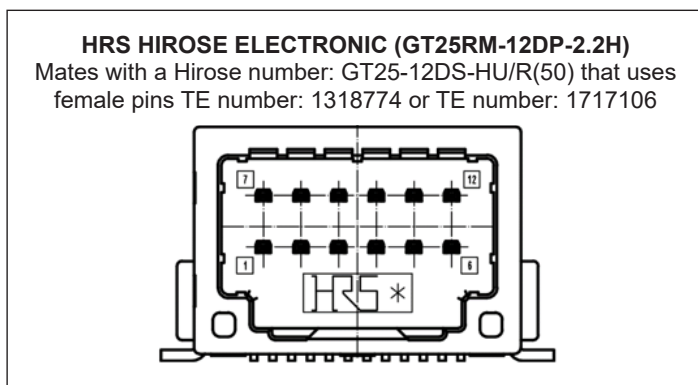

Figure 5 – Camera and Harness Connector Views
The camera has two (2) connectors. See Figure 5.